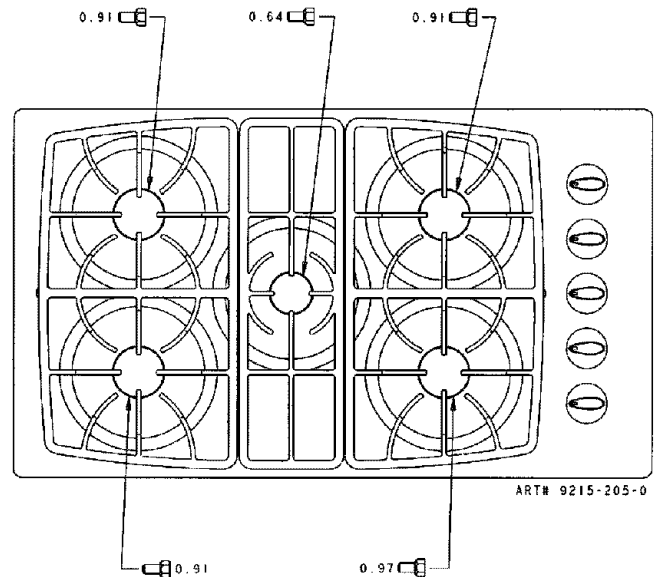

FIGURE 9
**Step 4:** Locate the LP orifice spud packet attached to bottom of appliance. The spuds have small numbers stamped on the side. This number codes the orifice diameter and its correct burner location. Figure 9 and 10 show the correct LP orifice spud location.